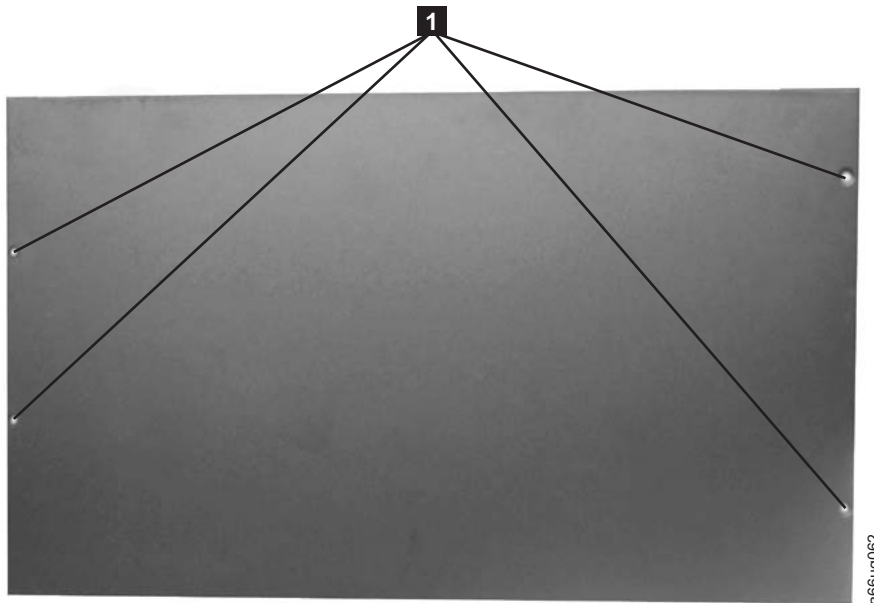

Figure 3-11. Top cover of the 5U control module
1. Remove the 4 - #2 Phillips top cover screws (**1** in Figure 3-11).
4. Install the top cover, with the 4 Phillips screws (see **1** in Figure 3-11).